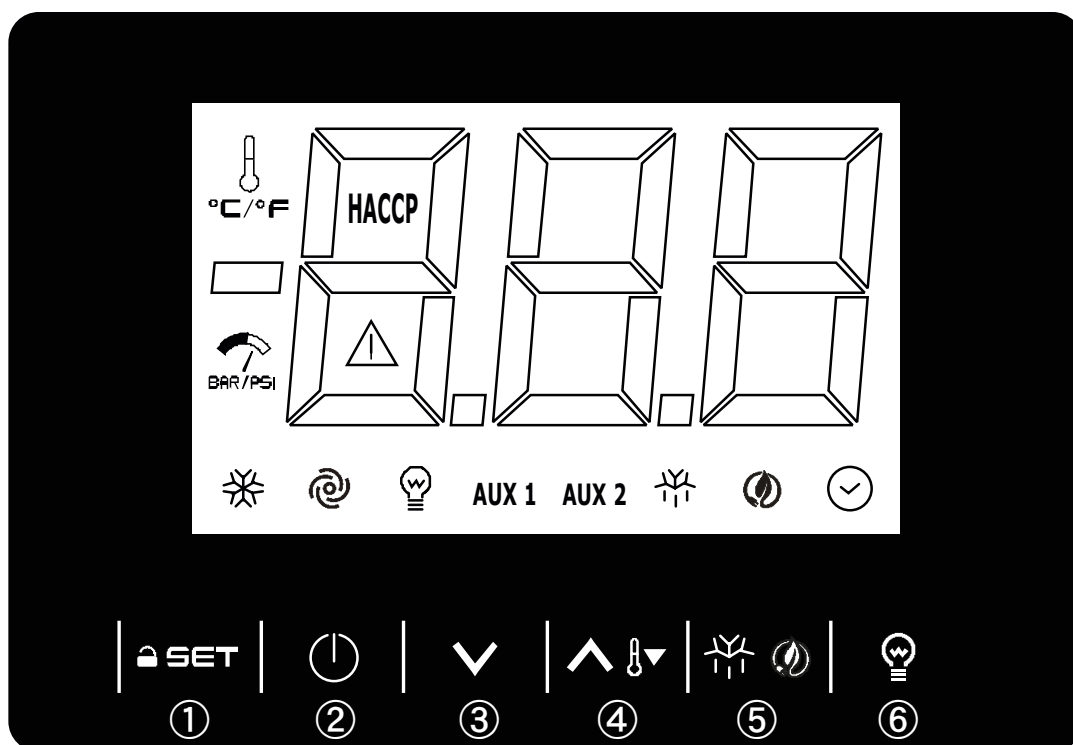

Fig.3
9.1 Description of the controls and buttons (Fig. 3)
**Start-up sequence (fig.3).**
9.2.2 Stopping methods (fig.3)
▶ press the on-off button (1) for 5 seconds	the display and the table will turn off
9.2.3 adjustment of the internal clock to the current time (fig. 3)
9.2.4 Setting the temperature (Fig. 3)
9.2.5 Automatic and manual defrost (Fig. 3)
9.2.6 Keypad lock (fig.3)
9.2.7 Turning the light on / off (fig. 3)
- Light is turned on and off automatically when the door is opened and closed. Touch the LIGHT key ⑥ to keep the light on.